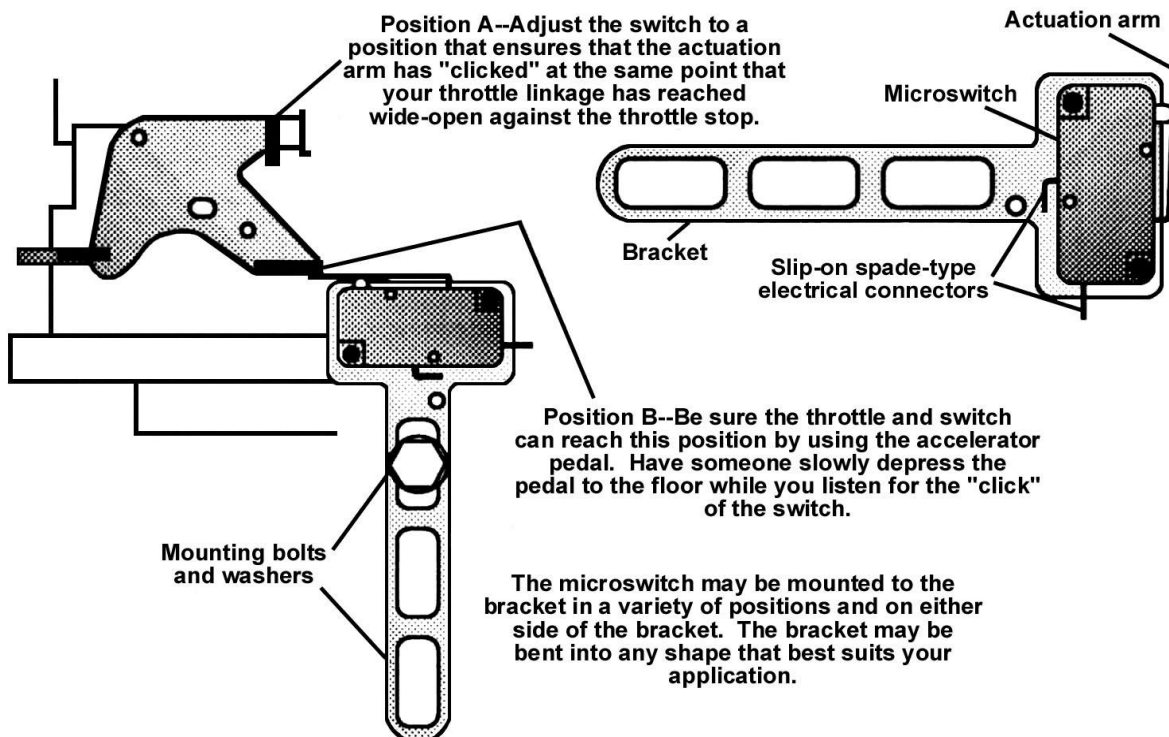

Figure 4 Microswitch Mounting
- B. Adjust the microswitch to trigger at wide-open throttle by adjusting the microswitch's position to ensure the actuation arm of the microswitch "clicks" at the same point your throttle linkage reaches wide-open throttle against the throttle stop (Figure 4, Position A).
- C. Ensure that the throttle and switch can reach the activation position, as shown in Figure 4, Position B, by using the accelerator pedal. Have an assistant slowly press the pedal to the floor while you listen for the "click" of the microswitch.